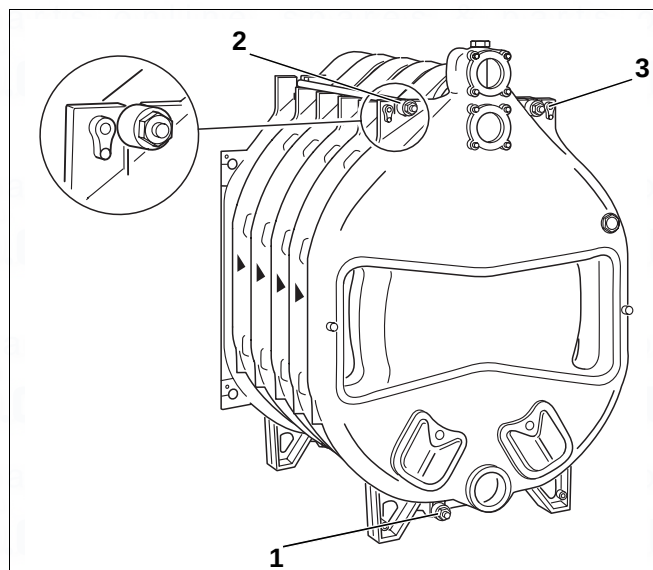

Fig. 17 Installing the anchor rods
- ▶ Insert the three anchor rods (with spring packs fitted) into the cast lugs at the designated positions (Fig. 17, [1], [2] and [3]).